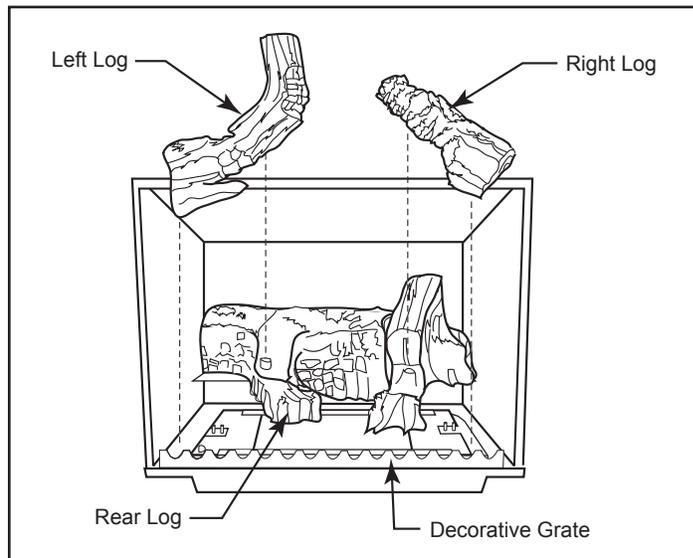

Figure 34 - Install the back, left and right logs.
2. Install the rear log centering it side to side on the sheet metal shelf at the back of the firebox. (Figure 34) The log will touch both sides and the back wall of the firebox.
3. Install the right log by engaging hole on bottom with pin on the rear log. (Figure 34) Then set right bottom side on the burner so the edge of the log touches the right side of the firebox. The right log does not use the locator pins on the burner to stay in place.
4. Install the left log by engaging hole on bottom with pin on rear log. (Figure 34) Then set left bottom side on the burner so the edge of the log touches the left side of the firebox.
5. Loosely sprinkle the lava rocks directly on top of the burner in front of and between the decorative grate and the right and left logs. Use the lava rock to cover brackets on the burner. (Figure 34)